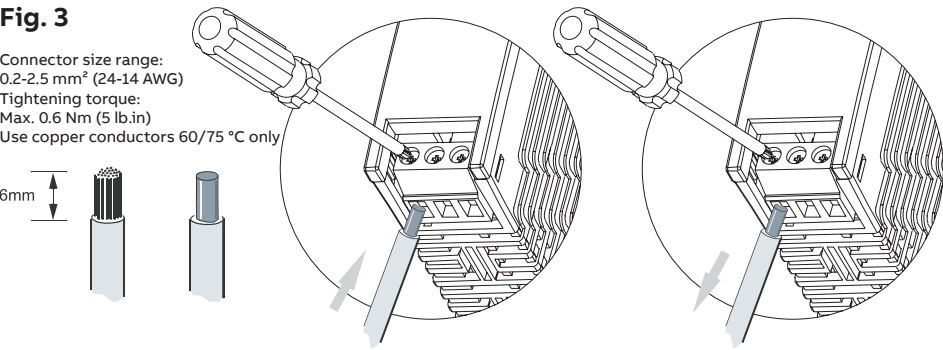

Fig. 4
3. Remove the unit from the DIN rail as shown in Fig. 4. Use an insulated screwdriver for the unlocking.